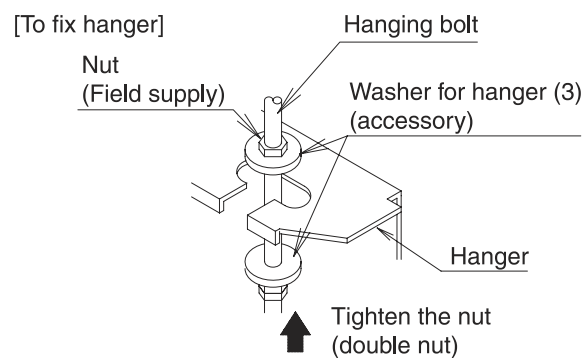

Fig. 7
(1) Install the indoor unit temporarily.
- Fix the hanger to the hanging bolt. Make sure to securely fix the hanger with the nut and the washer for hanger (3) from the upper and lower side. (Refer to Fig. 7)